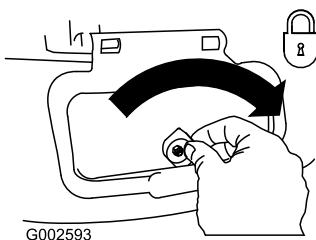

Figure 29
**Important:** Lock the side-discharge door after you close it (Figure 29).